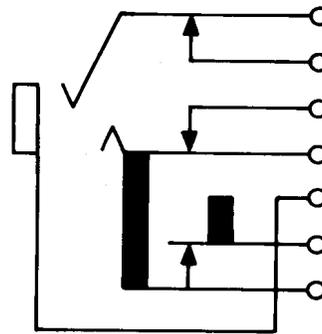

Fig. 9—559A Jack
2.09 559A: This unit-type jack (Fig. 9) is designed for strip-type mounting and furnished only on orders for jack mountings. This jack is designed to be used with the 309 plugs and is used with the 271A jack mounting. This jack is used in Panel, Crossbar, and Toll Telegraph Systems.